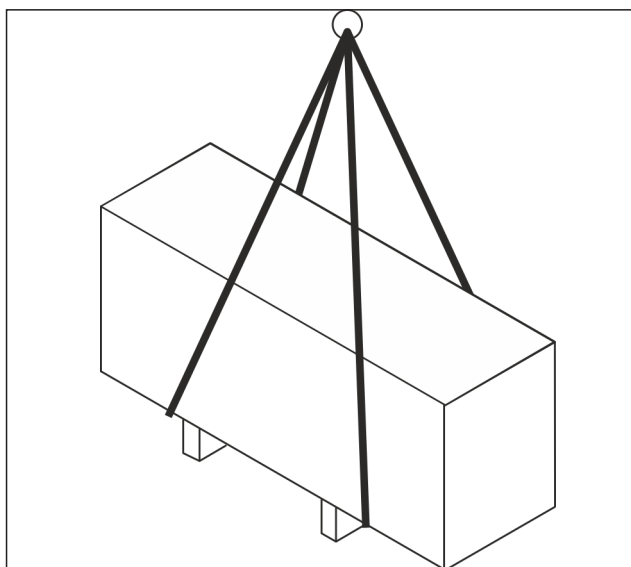

Fig. 6 Transport of package by crane
- Attach with ropes, straps or multipoint suspension gear in accordance with Fig. 6. If applicable, observe suspension markings on the package.